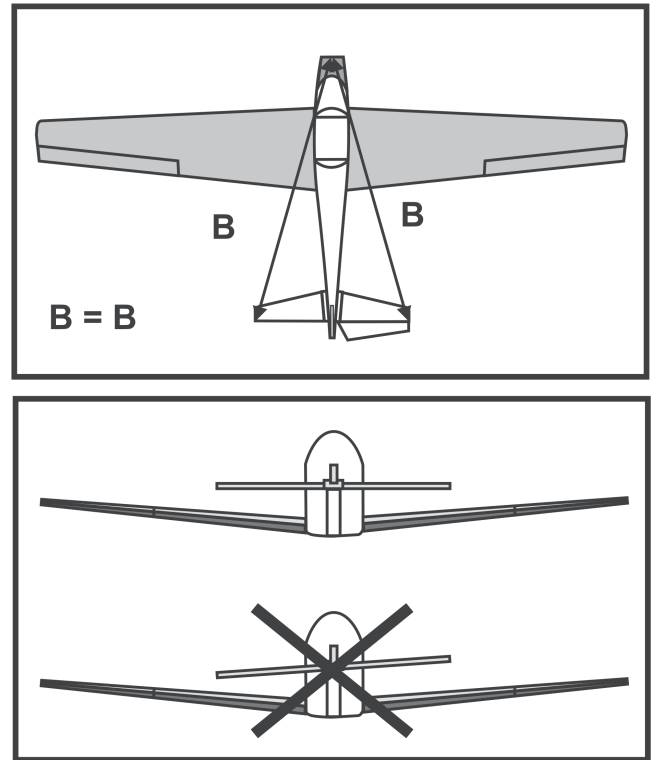

Figure 9
First plug together the two wing halves (1) "dry" with the wing connector (2). Observe the V-shape of the wings (see lower sketch, figure 9).
Align the tail unit again according to figure 9 and fasten the components with pins (1) until the glue cures.